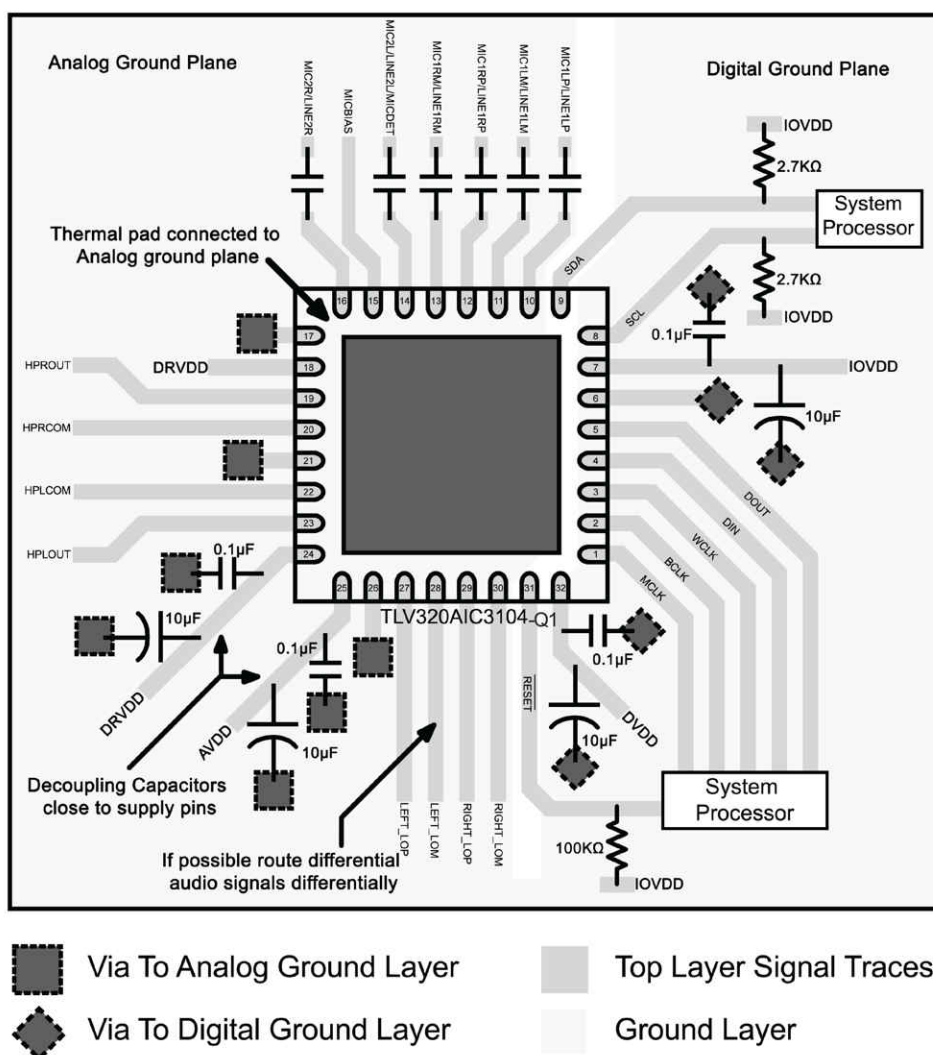

Figure 12-1. Layout Example
- Following the recommended component placement, schematic layout and routing given in Figure 12-1, integrate the device and its supporting components into the system PCB file.